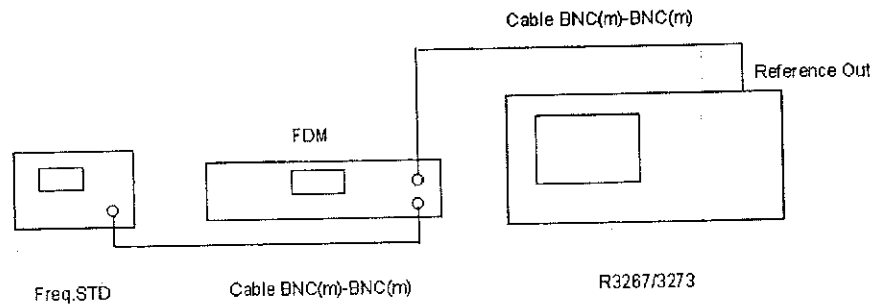

Figure 4-1 Internal Frequency Reference Adjustment Setup
1. Connect the equipment as shown in Figure 4-1.